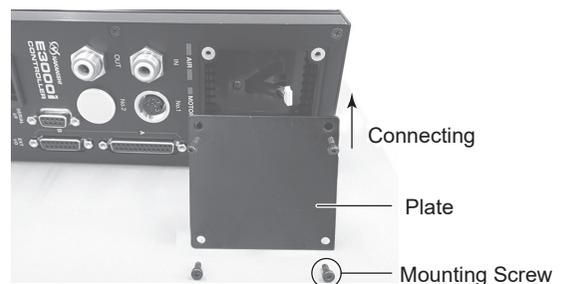

Fig. 40
- (5) Mounting the Plate using the 4 mounting screws (Fig. 40).